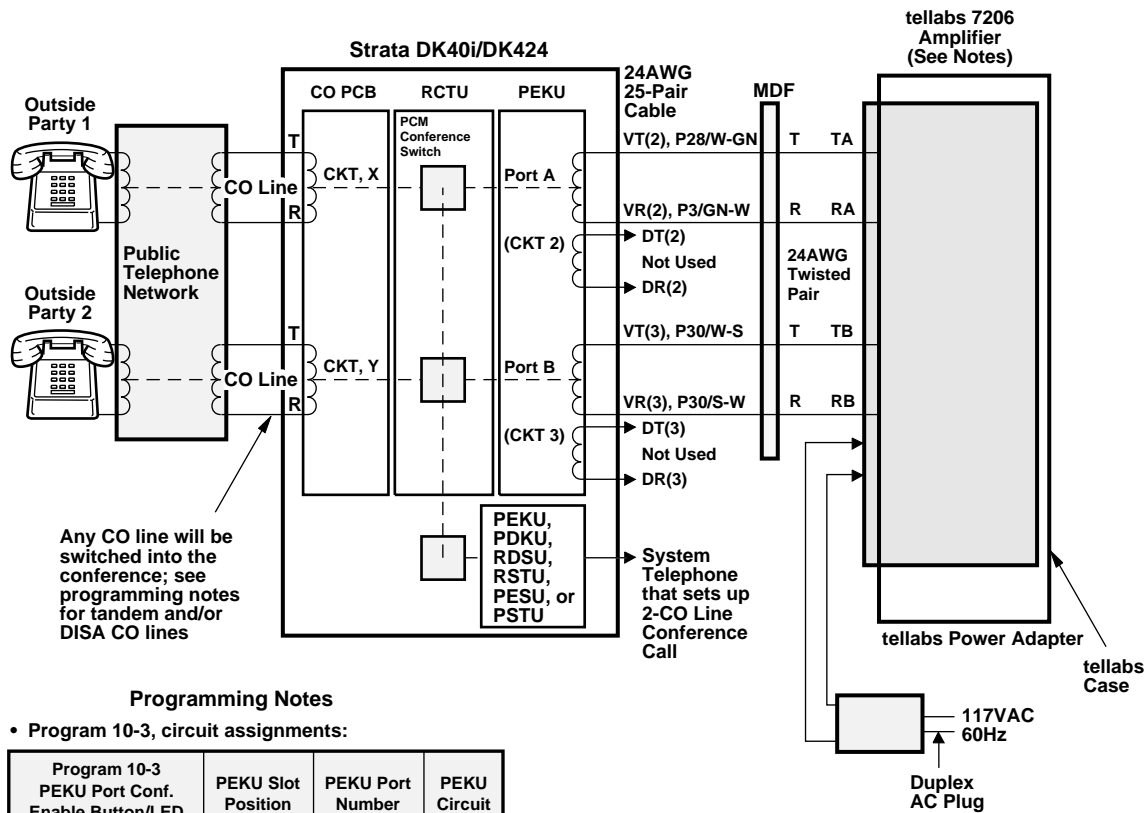

Figure 10-19 External Amplified Two-CO Line Call Functional Wiring Diagram
Figure 10-19 provides a functional diagram of a two-CO line amplified conference connection. (A tellabs 7206 amplifier is used here.) The talk path for the connection is as follows: outside party 1 – public telephone network – CO PCB, CKTX – RCTU – PEKU, port A – into AMP, Line in, – AMP, Line out – PEKU, port B – RCTU – CO PCB, CKTY – public telephone network – outside party 2. This path is two-way so when outside party 2 talks, the talk level is amplified in the reverse direction.
1. At the MDF, connect the voice pair (VT, VR, port A) of circuit 2 on the designated PEKU PCB to one input of the customer-supplied two-way amplifier. In the example in Figure 10-19, this is CKTA (CO Side A) of the amplifier. (See the Amplified Two-CO Line Conference wiring diagram in Chapter 8 – DK40i/DK424 Universal Slot PCB Wiring.)
2. At the MDF, connect the voice pair (VT, VR, port B) of circuit 3 on the designated PEKU PCB to the other input of the amplifier. In Figure 10-19, this is CKTB (subscriber side B) of the amplifier.